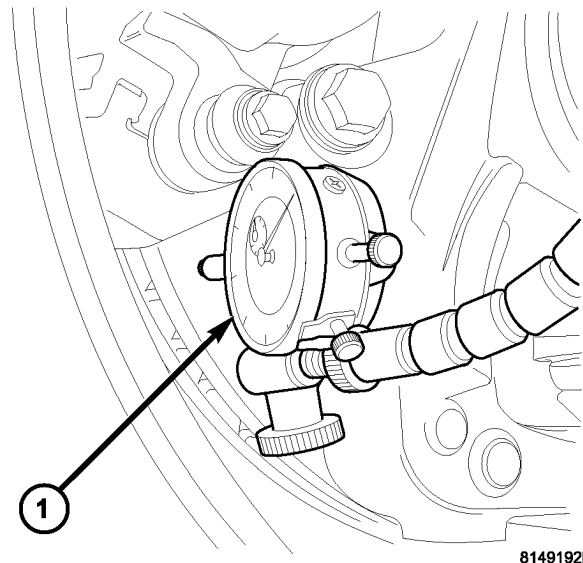

Fig. 1 ROTOR RUN OUT MEASUREMENT
8. Set up a dial indicator to measure mounted rotor runout. Place the dial indicator plunger against the inner machined rotor face, visible between the brake caliper and the front splash shield (Fig. 1). Rotate the wheel and tire assembly two turns and take runout measurement. If the measurement is less than .025 mm (.001 in.) no further action is required. If the measurement is greater than .025 mm (.001 in.) remove the lug nuts and relocate the wheel one stud clockwise, tighten the lug nuts as described in step 7 and check the runout again. Do not remove any brake parts. Repeat step 8 for each wheel location until you achieve the lowest mounted runout. Minimum mounted rotor runout will be achieved by moving the wheel, not the rotor.